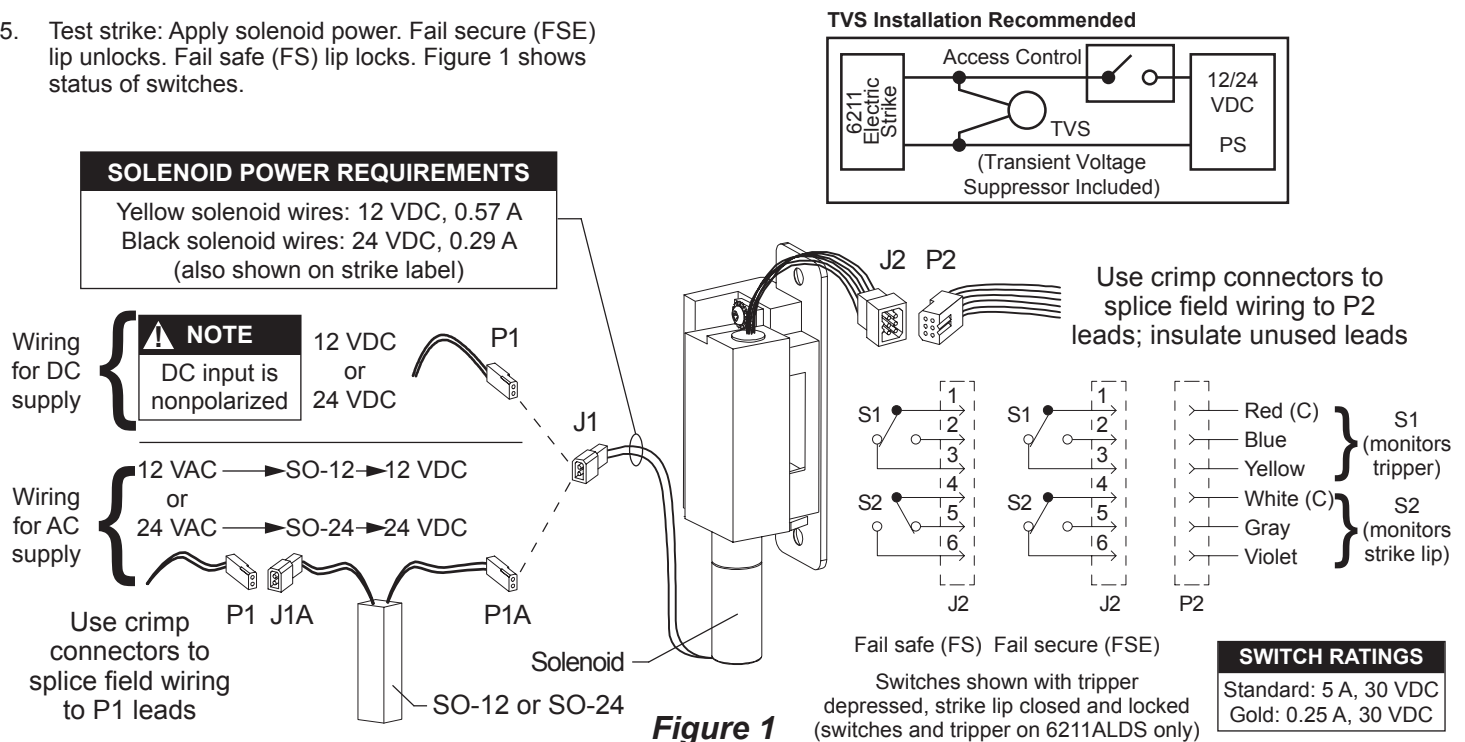

Figure 1
3. Wire strike (Figure 1). (Switches on 6211ALDS only.)
5. Test strike: Apply solenoid power. Fail secure (FSE) lip unlocks. Fail safe (FS) lip locks. Figure 1 shows status of switches.